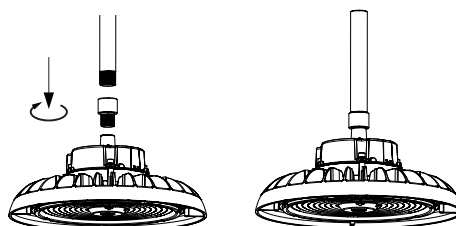

Figure 8
2. Twist the RWUX-PMK3/4 into the hole of fixture, and then twist the 3/4" stem into the RWUX-PMK3/4. (figure 8)